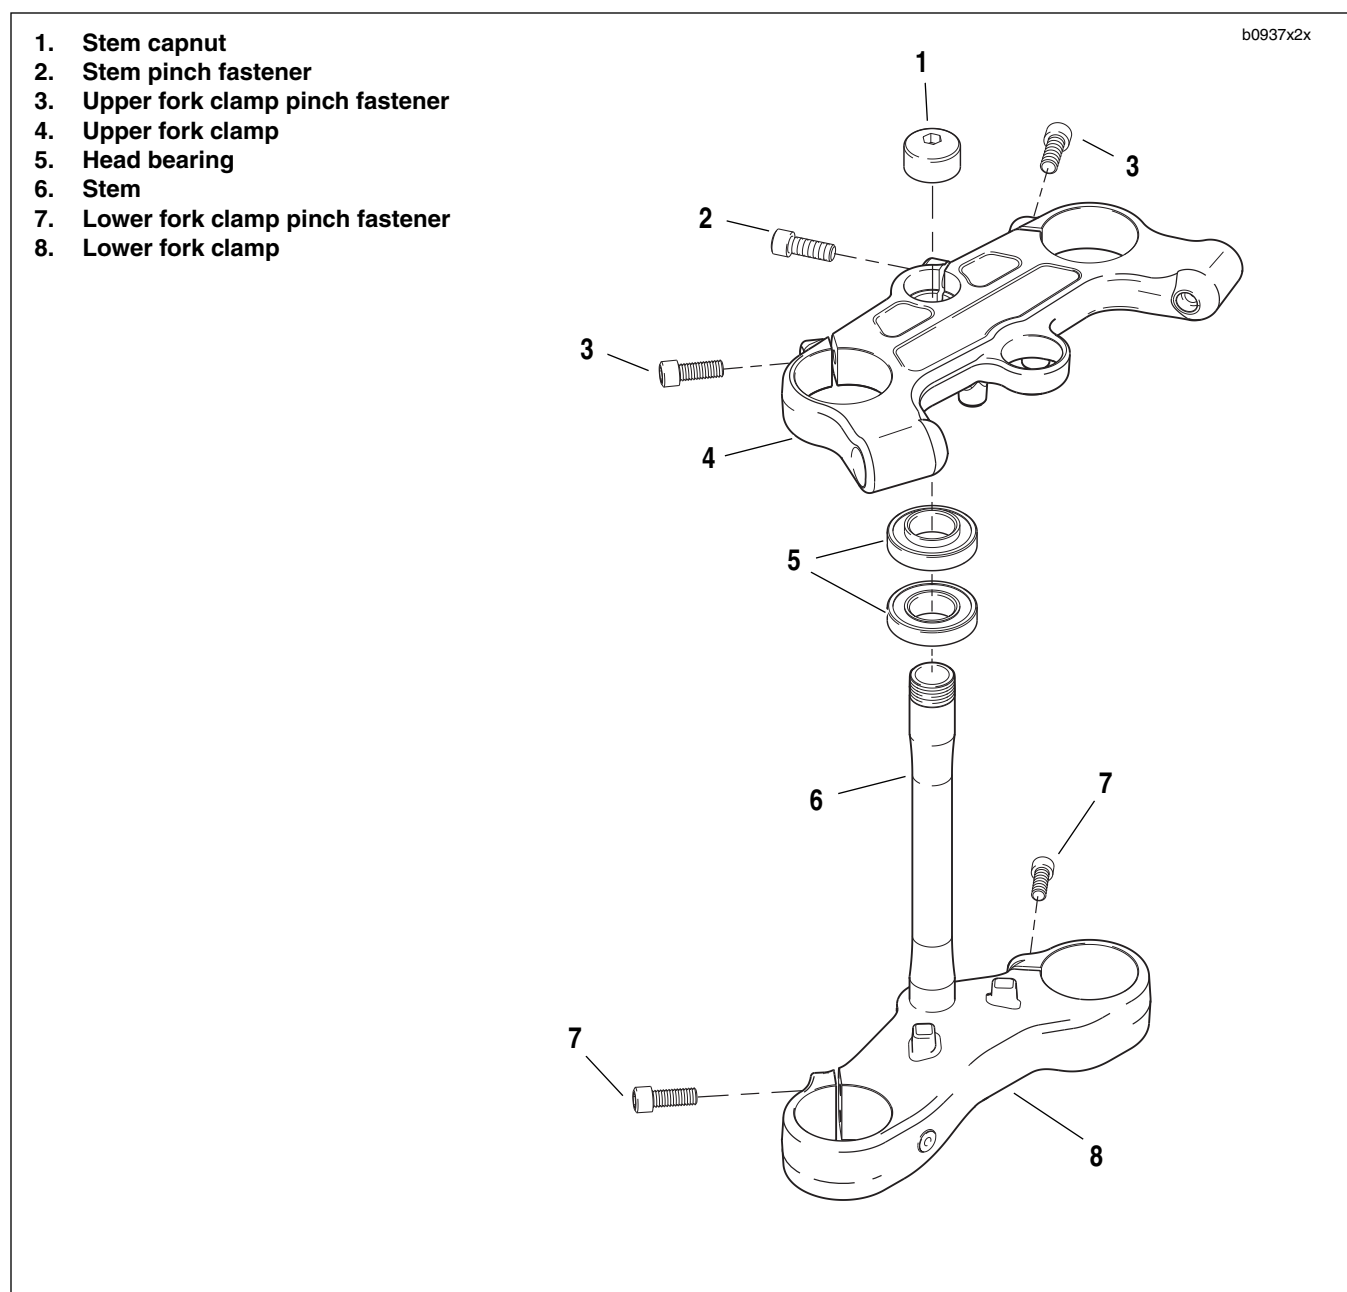
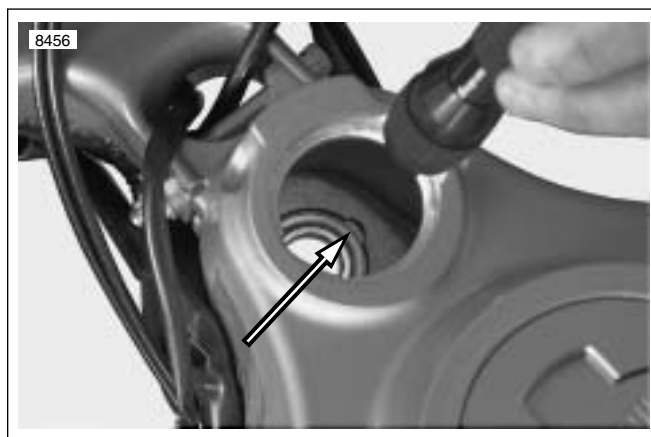

Figure 2-76. Steering Stem Assembly
Figure 2-77. Lower Steering Head Bearing Notches
5. See Figure 2-76. Remove steering stem pinch fastener (2).
8. See Figure 2-76. Hold or brace the lower fork clamp and remove steering stem capnut(1).
9. Remove the upper fork clamp (4).
10. Remove the lower fork clamp (8).
2. See Figure 2-76. Install the lower fork clamp (8) into the steering stem bore and install the upper fork clamp (4).
3. Install steering stem cap (1). Thread on by hand but do not torque.
- a. See Figure 2-76. Loosen steering stem pinch fastener (2) and upper and lower fork clamp pinch fasteners (3, 7).
- b. Brace wheel while removing steering stem capnut fastener (1).
- c. Remove upper fork clamp (4) and front-end assembly which includes front wheel, steering stem/lower fork clamp.
4. Remove upper and lower steering head bearings (5).
- a. See Figure 2-77. Locate notches inside steering head stem bore (upper bearing removed for clarity).